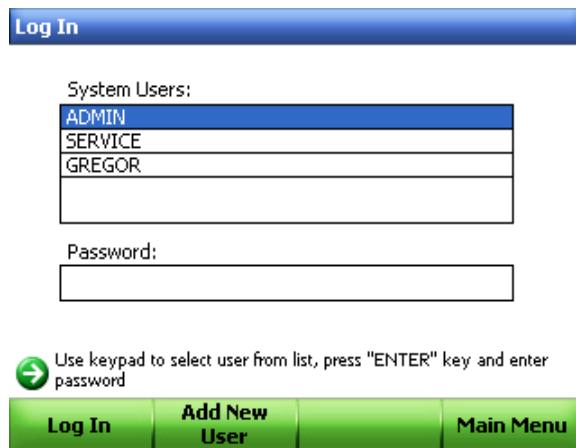

Figure 106. Select a user name using the up and down arrows.
1. Select **Log In** from the main menu and select a user name using the up and down arrows (Figure 106).